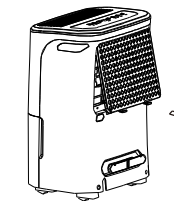

Fig. 8
- Grip the tab on the filter and pull it upward, then pull it out as shown in Fig.8.